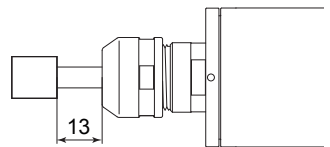

Fig. 15
- ① The proper surface speed for general grindstones is 10-30m/s.
- ② Do not exceed 13mm of overhang for mounted grindstones as shown in Fig. 15. If the overhang must exceed 13mm, reduce the motor speed in accordance with table 2.
- ③ Dress the grindstone prior to use.
- ④ Do not use cutting tools with bent or broken shanks, cracks or excessive run-out.
- ⑤ For grinding, the maximum depth of cut should not exceed 0.01mm radially or axially. Reciprocate the tool several times after each pass to eliminate tool pressure.
- ⑥ Always operate tools within the allowable recommended speed of the cutting tools. Use of a cutting tool outside of the allowable speed of the tools could cause damage to the spindle and injury to the operator.
- ⑦ Keep the cutting tool shank and collet chuck clean. If contaminants are left in the collet chuck or chuck nut, excessive run-out will cause damage to the cutting tool and or spindle.
- ⑧ Do not strike or disassemble the spindle.
- ⑨ Please minimize the tool overhang amount to maintaining high accuracy. 13mm is the maximum amount of overhang to maintain high accuracy and safety.